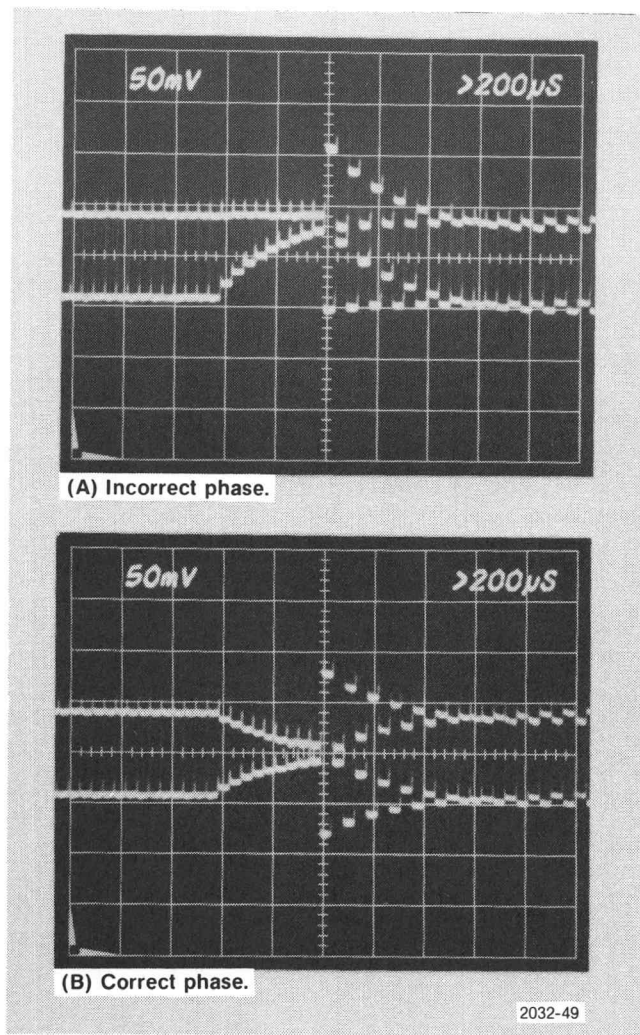

Fig. 5-7. 1421, 1422 — DC Balance adjustment.
a. Connect the 10X probe from the test oscilloscope to TP1544. (See Fig. 5-7.) Turn the video generator Bruch Sequence off.
b. CHECK—that the crossover point of two successive field sync pulses, time overlaid, is 0 V dc (see Fig. 5-7).